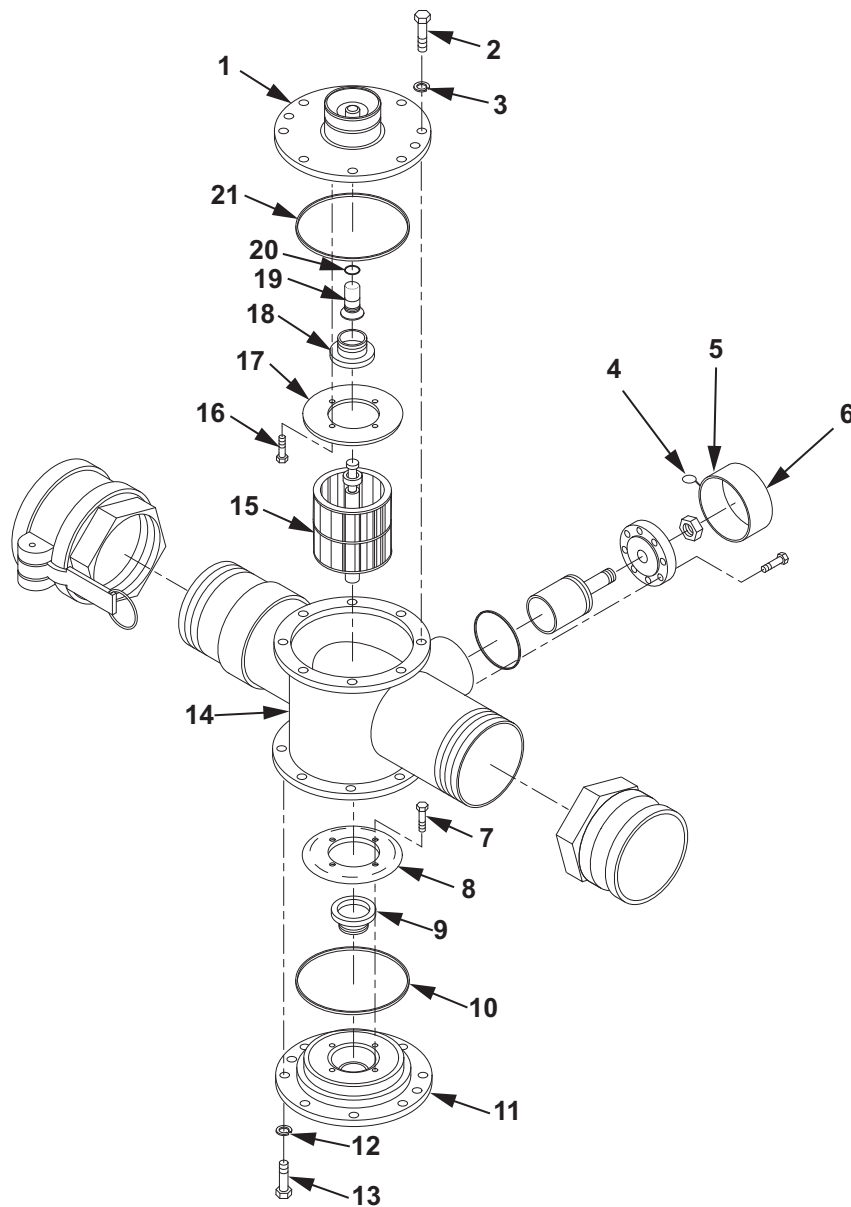

Figure 4. 4 In. Inline Flowmeter Assembly.
1. Assemble rear cover (Figure 4, Item 11).
- a. Install bearing insert (Figure 4, Item 9) into rear cover (Figure 4, Item 11).
- b. Position throttle plate (Figure 4, Item 8) on rear cover (Figure 4, Item 11).
- c. Install four screws (Figure 4, Item 7) to secure throttle plate (Figure 4, Item 8) to rear cover (Figure 4, Item 11). Tighten screws (Figure 4, Item 7).
2. Install rear cover (Figure 4, Item 11) onto flowmeter (Figure 4, Item 14).
- a. Apply a thin coat of petrolatum on new O-ring (Figure 4, Item 10) and install on rear cover (Figure 4, Item 11).
- b. Position rear cover (Figure 4, Item 11) on flowmeter (Figure 4, Item 14).
- c. Install four new lockwashers (Figure 4, Item 12) and screws (Figure 4, Item 13) to secure rear cover (Figure 4, Item 11) to flowmeter (Figure 4, Item 14).
- d. Using torque wrench and adapter, torque four screws (Figure 4, Item 13) using standard torque table (WP 0208).
1. Align the rotor and shaft assembly (Figure 4, Item 15) in the flowmeter (Figure 4, Item 14) housing.
2. While pushing inward on the rotor and shaft assembly (Figure 4, Item 15), install the rotor and shaft assembly (Figure 4, Item 15) into flowmeter (Figure 4, Item 14).
1. Assemble top cover (Figure 4, Item 1).
- a. Apply a thin coat of petrolatum on new O-ring (Figure 4, Item 20) and install O-ring (Figure 4, Item 20) on flowmeter diaphragm (Figure 4, Item 19).
- b. Position flowmeter diaphragm (Figure 4, Item 19) on top cover (Figure 4, Item 1).
- c. Install bearing insert (Figure 4, Item 18) into top cover (Figure 4, Item 1).
- d. Position throttle plate (Figure 4, Item 17) on top cover (Figure 4, Item 1).
- e. Install four screws (Figure 4, Item 16) to secure throttle plate (Figure 4, Item 17) to top cover (Figure 4, Item 1). Tighten screws (Figure 4, Item 16).
2. Install top cover (Figure 4, Item 1) onto flowmeter (Figure 4, Item 14).
- a. Apply a thin coat of petrolatum on new O-ring (Figure 4, Item 21) and install new O-ring (Figure 4, Item 21) on top cover (Figure 4, Item 1).
- b. Position top cover (Figure 4, Item 1) on flowmeter (Figure 4, Item 14).
- c. Install eight new lockwashers (Figure 4, Item 3) and screws (Figure 4, Item 2) to secure top cover (Figure 4, Item 1) to flowmeter (Figure 4, Item 14).
- d. Using torque wrench and adapter, torque eight screws (Figure 4, Item 2) using standard torque table (WP 0208).
- e. Using safety wire pliers, install new safety wire (Figure 4, Item 4) and lead seal (Figure 4, Item 5) on calibration plug cover (Figure 4, Item 6).